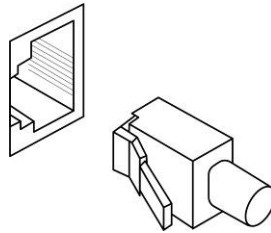

Figure 15: Copper Cable Installation
2.	Connect the RJ-45 connector at one end of the cable to the RJ-45 port on the Industrial PoE Switch. See Figure 15 below.